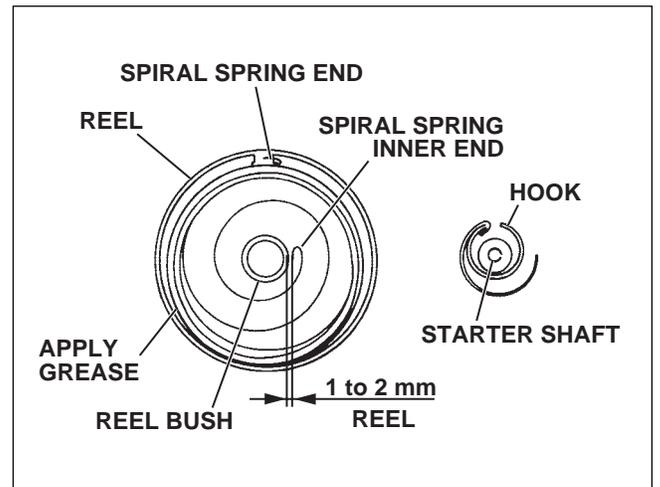

Fig. 9-4
(2) Check that the spring is securely set in the reel and form the spring end to have 1 to 2 mm clearance between inner end of the spring and the reel bush so that the inner end catches the hook securely as shown in Fig. 9-4. The shape of spring inner end (approx. 10 cm from the end) can be adjusted with plier if necessary.